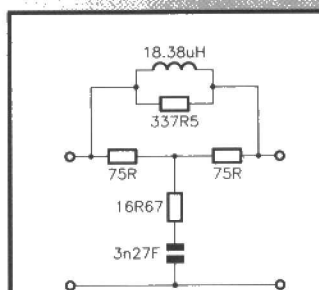

Figure 17a. Noise weighting network for continuous random video noise. Source and load resistances are 75Ω.
*continuous random noise* is a form of bridged-T (refer to Figures 17a to 17c). The weighting is intended to make the noise voltage and SNR measurements correlate with the subjective effects of video noise on the picture display. It is possible to make up these filters and the weighting network mostly from Maplin parts, preferably in small die-cast boxes in view of the high frequencies involved. Of course, there is not much point in making the filters without a video noise source to go with them. This also is not too difficult to build, although it must be remembered that frequencies up to 5MHz are involved, so short leads and careful layout are required. The noise is generated as the difference between the noise voltages across two current-fed avalanche diodes ('Zener' diodes with forward voltages in excess of 6.2V). This difference voltage has a more accurately Gaussian probability density distribution than the original noise voltages, and is produced by coupling the original noise voltages to the differential inputs of a NE592 (or LM592) video amplifier device.